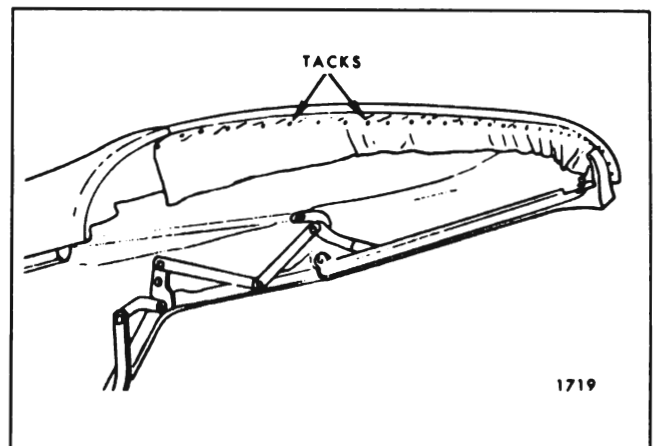

Fig. 13-29 — Installation Of Top Material To Front Roof Rail
49. Unlock top from windshield header and apply nitrile cement or neoprene-type weatherstrip adhesive to tacking area of front roof rail and corresponding surface of top material. Pull top trim material slightly forward so that pencil marks are on underside of front edge of front roof rail. Fasten top trim to cemented area and stay tack trim to rail (Fig. 13-29).